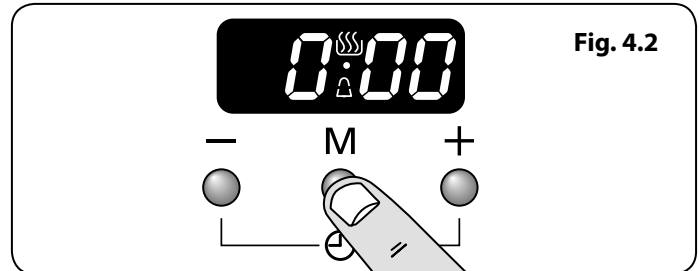
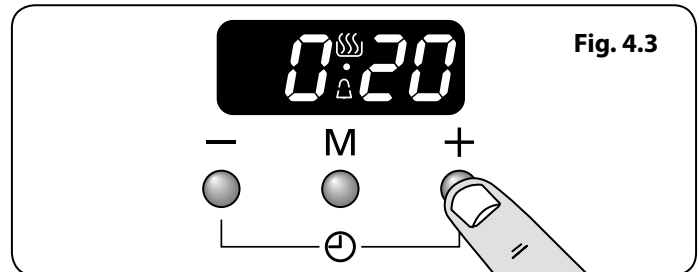

Fig. 4.2
Fig. 4.3
1. Press the mode [M] button once **(Fig. 4.2)**. The bell symbol [🔔] will flash on the display. Select the desired countdown from 00:01h to 23:59h using the [+] button **(Fig. 4.3)**. The countdown will automatically begin and the [🔔] symbol will show in the display.